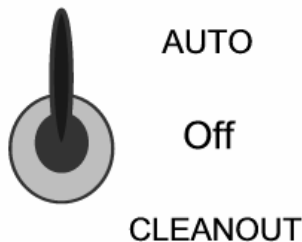

Fig. 2
2. Set the control switch (Fig. 2) to the “**CLEANOUT**” position and dispense all product from the freezing cylinder by pulling downward on the spigot handle (Fig. 4) to empty the machine.